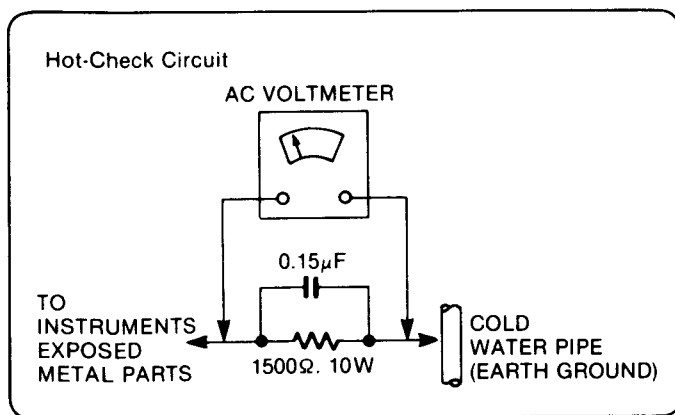

Figure 1
LEAKAGE CURRENT HOT CHECK (See figure 1.)
2. Connect a 1.5k Ω , 10 watts resistor, in parallel with a 0.15 μ F capacitor, between each exposed metallic part on the set and a good earth ground such as a water pipe, as shown in figure 1.